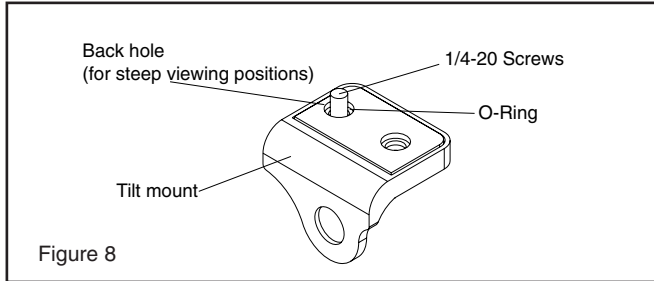

Figure 8
- If the camera is to be placed from a 30° viewing angle to a 55° viewing angle, use a 1/4-20 screw (I) in the back hole of the tilt mount (Figure 8).